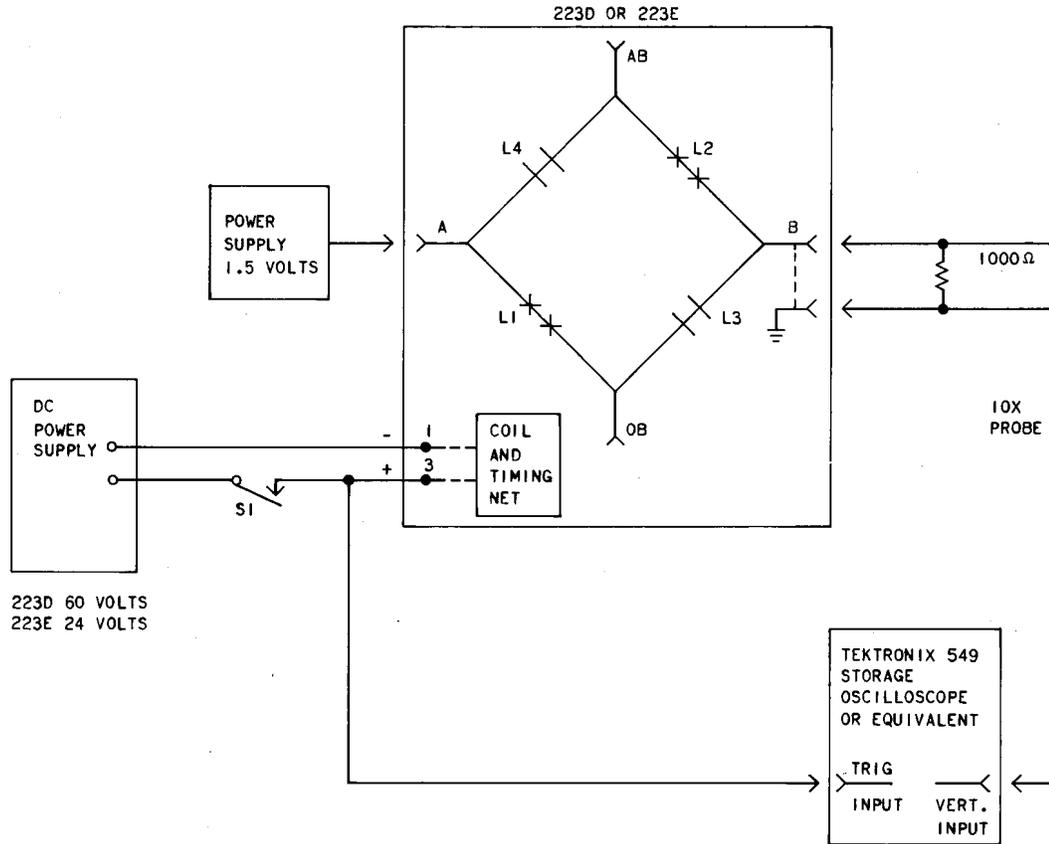

Fig. 21—Bridging Time Check Test Circuit
- (a) Establish test circuit of Fig. 21.
- (1) Screen selector—FULL
- (2) Automatic erase—OFF
- (3) Horizontal—0.5 ms/cm
- (4) Vertical input—0.05 volts/cm
- (5) Operate screen voltage to STORE.